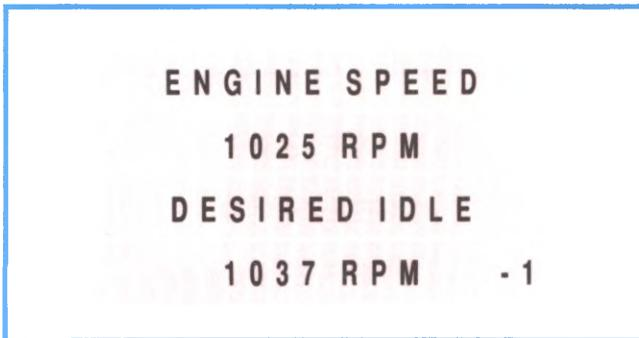

Figure 6-38, Data Sample with Number Index
- **UP/DOWN arrow** — these keys view data before and after the trigger point. Each data sample is identified with a number or time index. This index appears in the lower right corner of the Tech 1 display (figure 6-38).